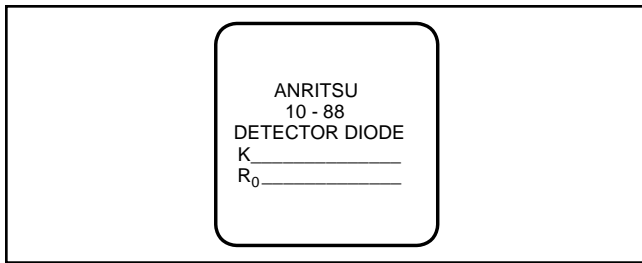

Figure 8. Replacement Diode Container Label
5. Obtain the “K” value from the replacement diode container level (Figure 8, page 6).
9. Obtain the “R₀” value from the replacement diode container label (Figure 8, page 6).